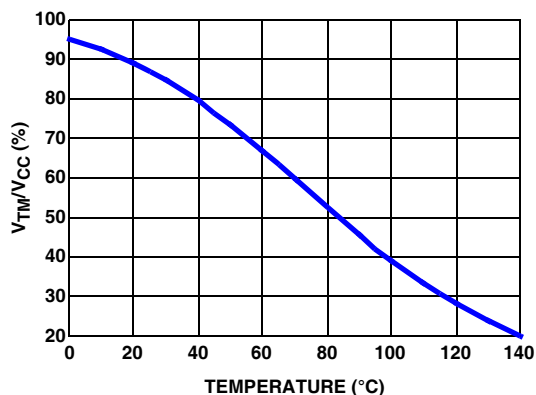

FIGURE 15. THE RATIO OF TM VOLTAGE TO NTC TEMPERATURE WITH RECOMMENDED PARTS
Figure 15 shows the TM voltage over temperature for a typical design with a recommended  $6.8k\Omega$  NTC (P/N: NTHS0805N02N6801 from Vishay) and  $1k\Omega$  resistor  $R_{TM1}$ . We recommend using these resistors for accurate temperature compensation.
Based on the  $V_{CC}$  voltage, ISL6336B converts the TM pin voltage to a 6-bit digital signal for temperature compensation. With the non-linear A/D converter of ISL6336B, the TM digital signal is linearly proportional to the NTC temperature. For accurate temperature compensation, the ratio of the TM voltage to the NTC temperature of the practical design should be similar to that in Figure 15.
1. Properly choose the voltage divider for TM pin to match the TM voltage vs temperature curve with the recommended curve in Figure 15.